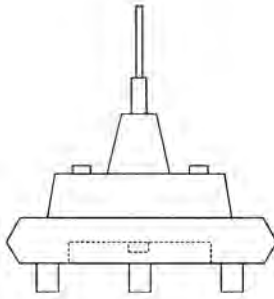

Figure 3-5 Ground Microphone for Streets
Figure 3-5 shows a side view of the ground microphone with the three (3) pronged base for listening on streets, pavement surfaces, or concrete slabs. The 3 prongs should rest firmly on the street's hard surface in order for sound to be transmitted clearly to the ground microphone's sensor.